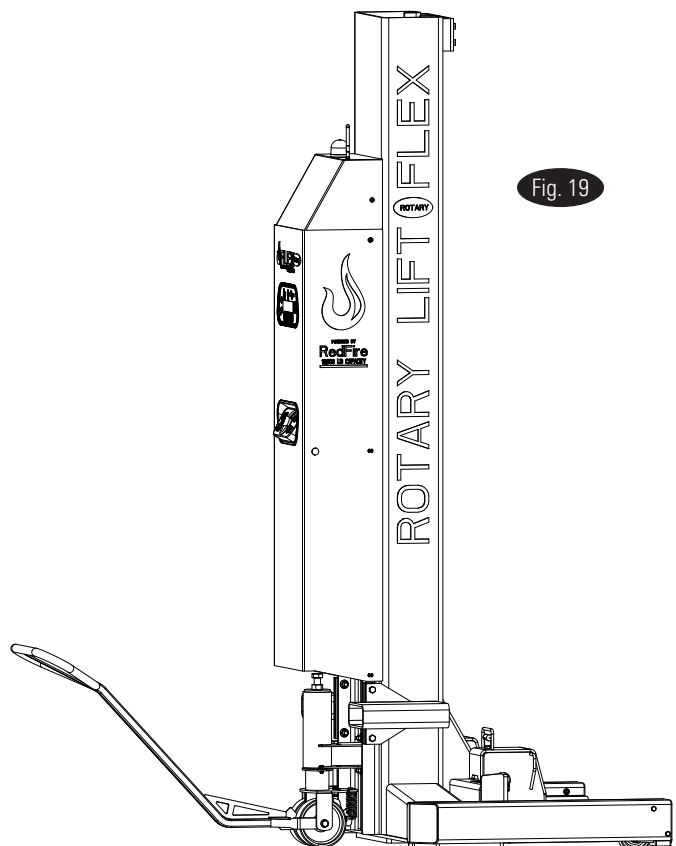

Fig. 19
- e.) To move column be sure column is not loaded, and pivot handle down, releasing wheel lock, and push or pull on the handle or column while steering with the handle, Fig. 19.